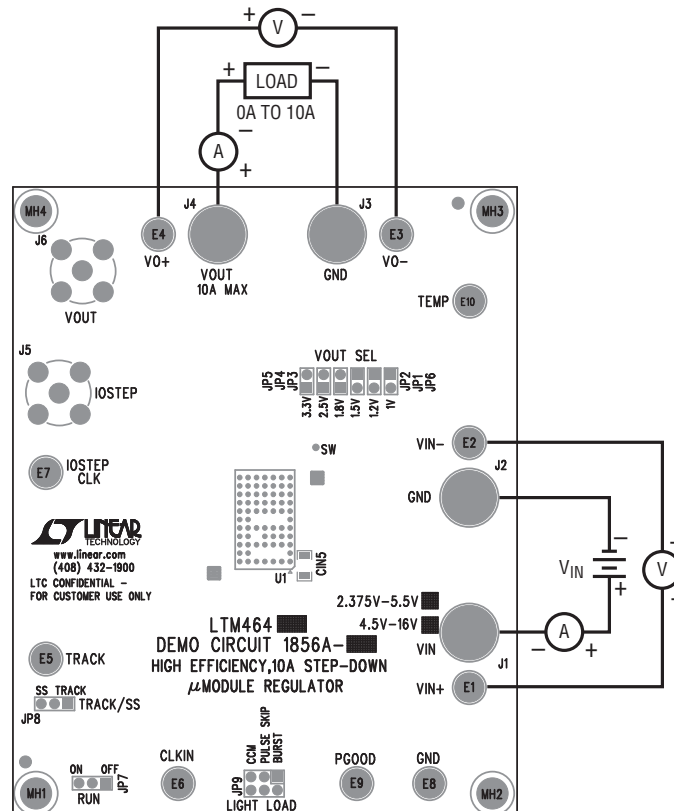

Figure 1. Test Setup of DC1856A-B
Demonstration circuit 1856A-B is an easy way to evaluate the performance of the LTM4649EY. Please refer to Figure 1 for test setup connections and follow the procedure below.
3. With power off, connect the load, input voltage supply and meters as shown in Figure 1.